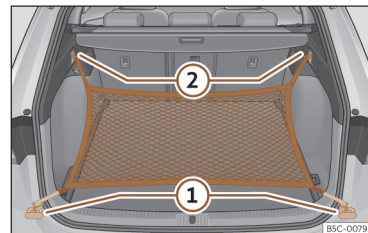

Fig. 127 In the luggage compartment: rings ① and hooks ② for attaching the net bag.
- Secure the short net hooks to the fastening rings»» Fig. 127 ① »» ⚠. The bag zip should be facing upwards.
- Secure the straps in the bag hooks ②.